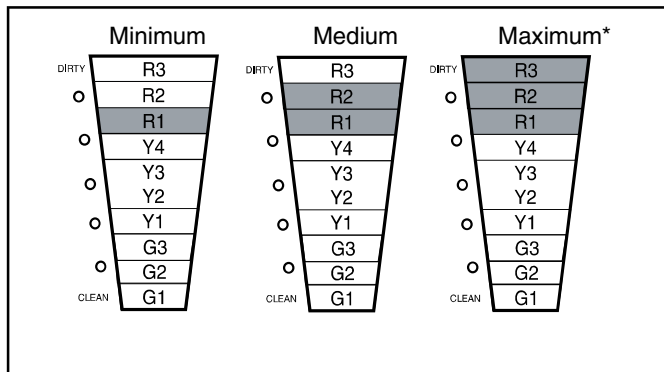

Figure 28 Red LED Power Level Settings
- The three RED LED's indicate the Power Level setting. The default is maximum. See Figure 28.
FIELD CHARGER POWER LEVEL SETTING (Figure 28)